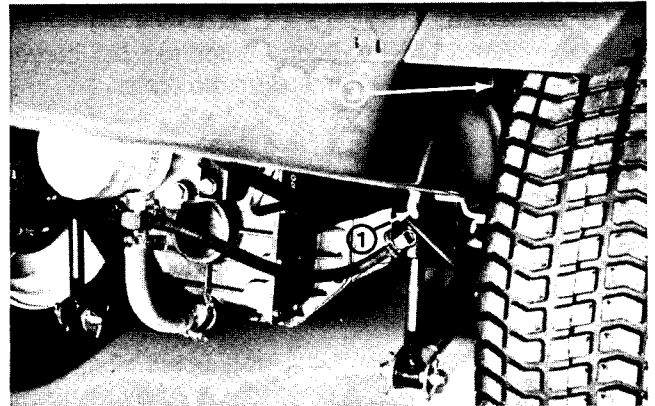

Figure 31
2. Remove the cotter pins and cylinder pin (Fig. 31) that attach the lift cylinder piston rod to the lift arm.